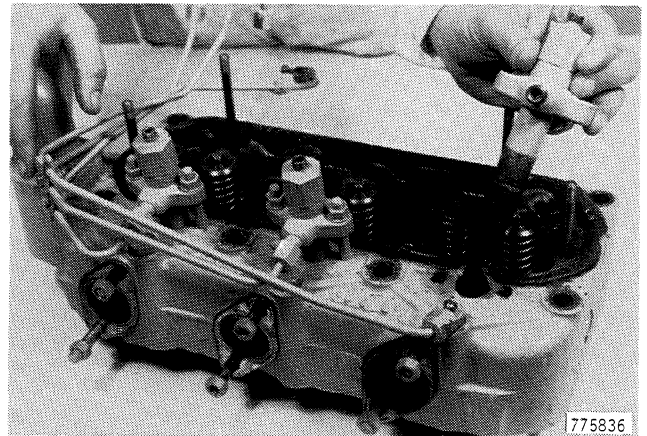

Figure 92
6. Pull the injector from the head, Figure 92.